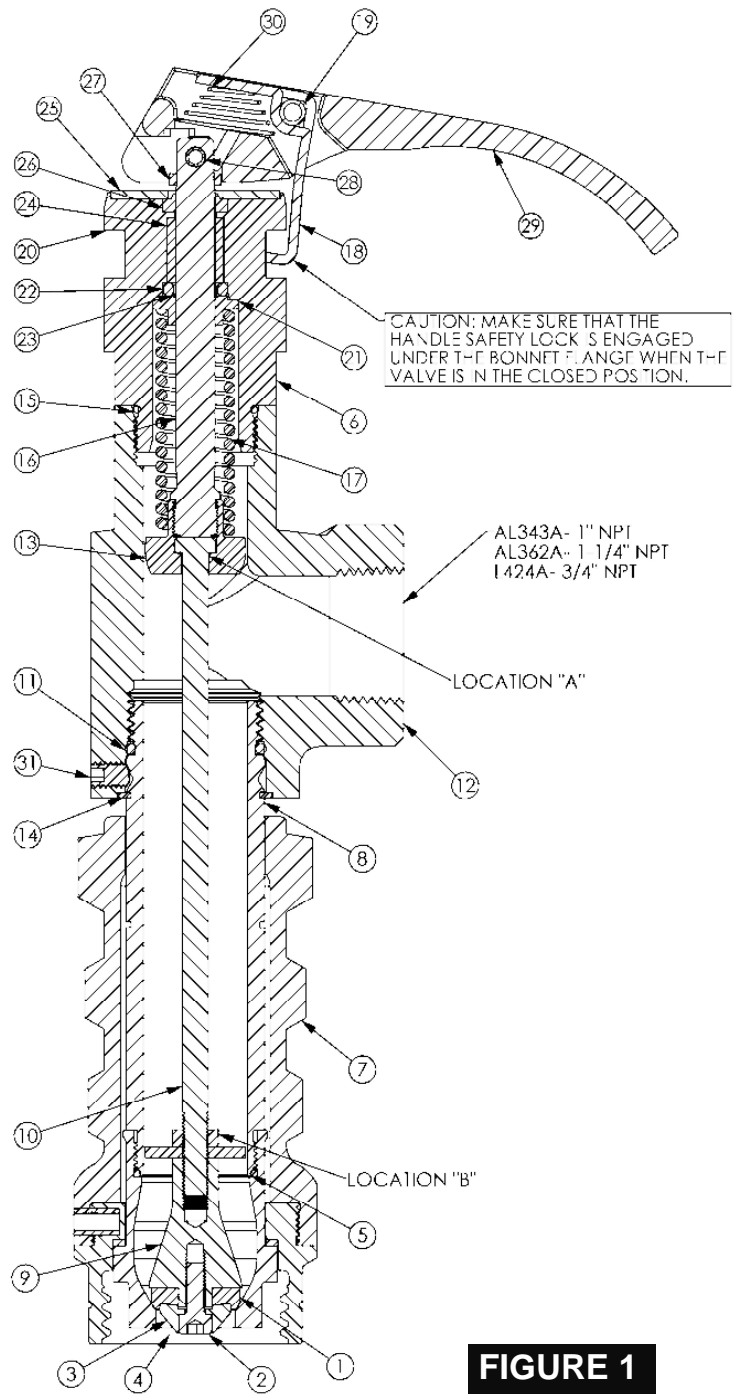

FIGURE 1
Removal of Valve for Repair or Replacement (Refer to Figure 1 for Item Numbers)
Disassembly Procedure for Repair (Refer to Figure 1 for Item Numbers)
1. At Location "A" of FIGURE 1, the Stem Extension ①⑩ must rotate freely inside the Seat Retainer ①③ and have a small amount of end play inside the bore. This interface is mechanically crimped and cannot be disassembled.
2. At Location "B" of FIGURE 1, the Disc Holder ①⑨ should be shouldered snug against the Screw ②.
Assembly Procedure (Refer to Figure 1 for Item Numbers)